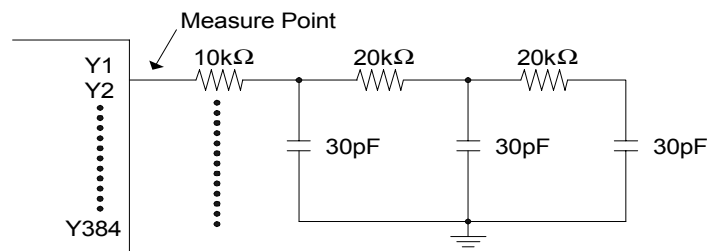

Figure 6. Yout load condition
- (1). $V_{CMRSDS} = +1.1\text{ V}$, $V_{DIFFRSDS} = V_{RSDSP} - V_{RSDSN} = \pm 200\text{ mV}$
- (2). The value is specified when the drive voltage value reaches the target output voltage level of 90%
- (3). The value is specified when the drive voltage value reaches the target output voltage level of 6-bit accuracy.
- (4). Yout load condition (refer to Figure 6)